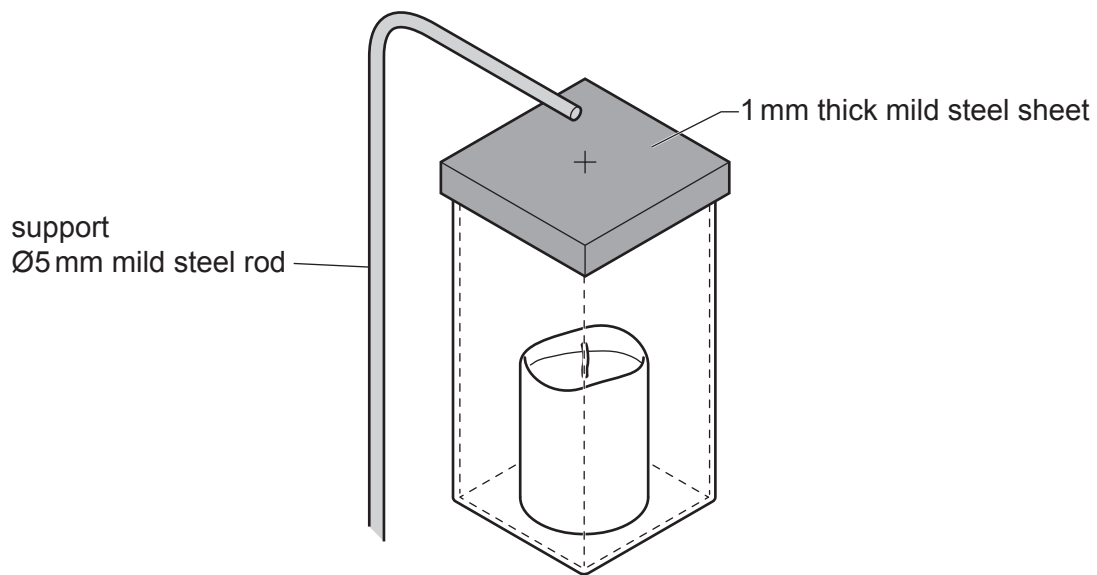

Fig. 11.5
(e) Fig. 11.5 shows the garden lantern and part of a support from which it will be suspended.
- (f) Use sketches and notes to show modifications to the lantern lid and the end of the support shown in Fig. 11.5 so that the garden lantern could be suspended safely.